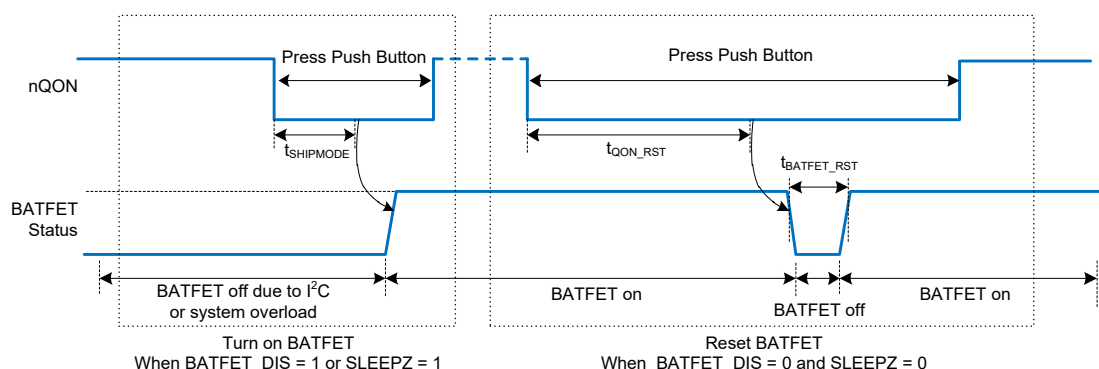

Figure 10. nQON Enable and Reset BATFET Timing
1. **Enable BATFET:** Applying an nQON logic high to low transition with longer than  $t_{SHIPMODE}$  deglitch time (negative pulse) turns on BATFET to exit ship mode (Figure 10 left). HIZ is also enabled ( $EN\_HIZ = 1$ ) when exiting shipping mode. After exiting shipping mode, the host can disable HIZ ( $EN\_HIZ = 0$ ). OTG cannot be enabled ( $OTG\_CONFIG = 1$ ) until HIZ is disabled.
2. **Reset BATFET:** By applying a logic low for a duration of at least  $t_{QON\_RST}$  to nQON pin while VBUS is not powered and BATFET is allowed to turn on ( $BATFET\_DIS$  bit = 0), the BATFET turns off for  $t_{BATFET\_RST}$  and then it is re-enabled resulting in a system power-on reset (Figure 10 right). This function can be disabled by clearing  $BATFET\_RST\_EN$  bit.